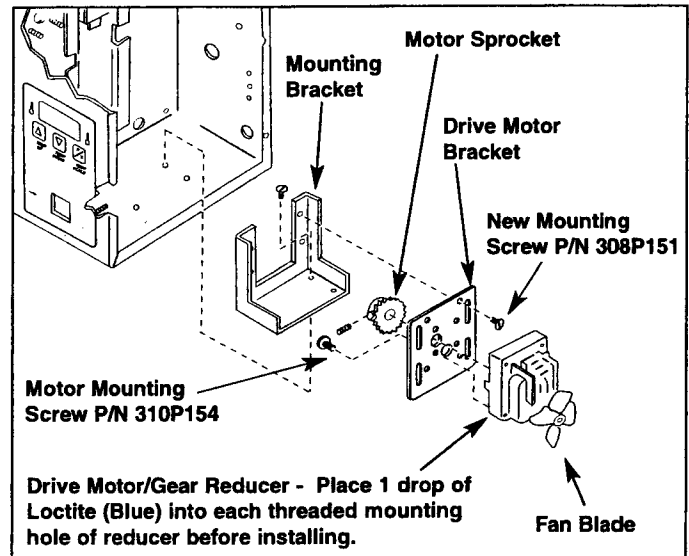

Figure 1. Replacing Drive Motor and Fan Blade
1. Disconnect the motor wires and remove the drive motor and drive motor bracket (Figure 1). Discard the four 8-32 x 5/16" mounting bracket screws.